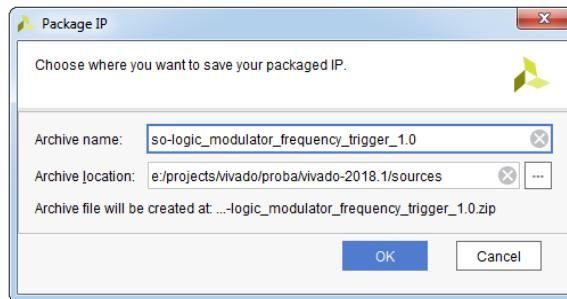

Figure 12.21: Package IP dialog box
22. Click **edit** link next to the **Create archive of IP** name in the **After Packaging** selection to change the name and the location of the archive, see Figure 12.21.